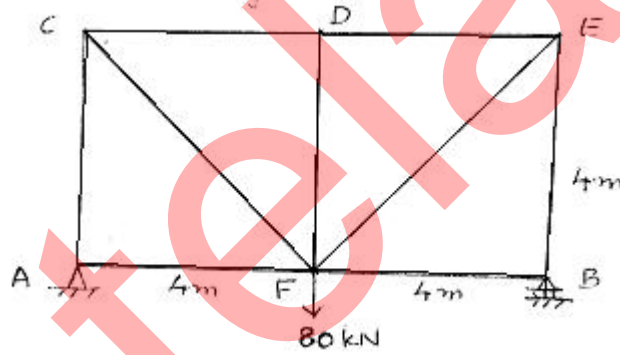

Figure 5
- 15 Determine the vertical deflection at joint F of the truss shown in figure 5.  $A = 2200 \text{ mm}^2$  and  $E = 200 \text{ GPa}$ . (10)